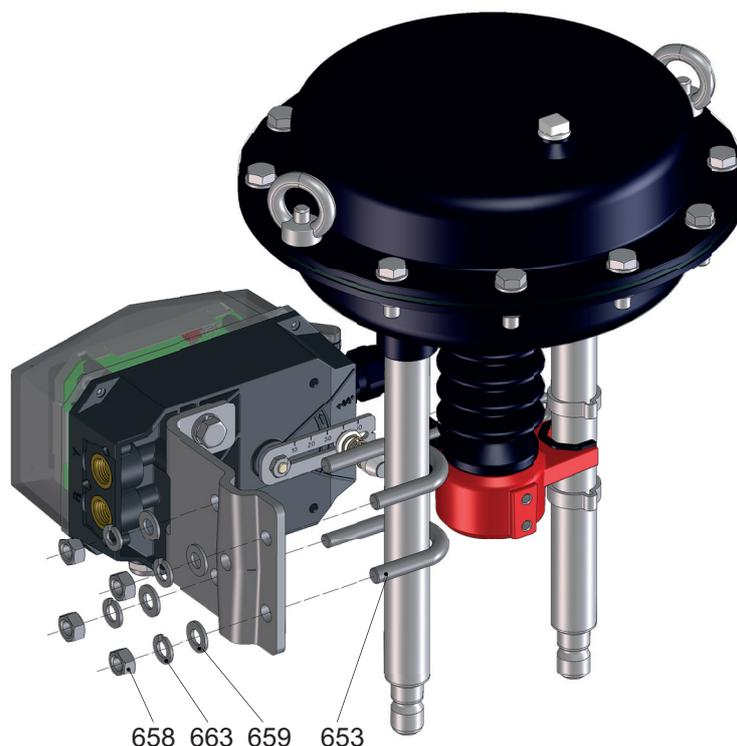

Fig. 14
6. Attach the ARI-STEVI-POS® to the actuator column (see Fig. 14):
After approximate alignment, the hex nuts (pos. 658) can be temporarily tightened (see Fig. 14)